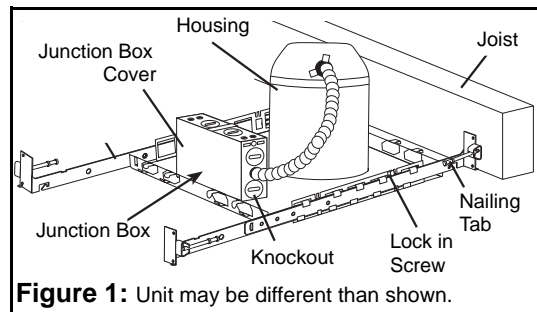

Figure 1: Unit may be different than shown.
- a. Measure distance from walls and mark position of housing to be installed between joists (see fig. 1).
4. Remove the junction box cover by releasing the spring. Open the appropriate knockout for the supply wires on the junction box (see fig. 1). Supply wire insulation must be rated for at least 90°C.